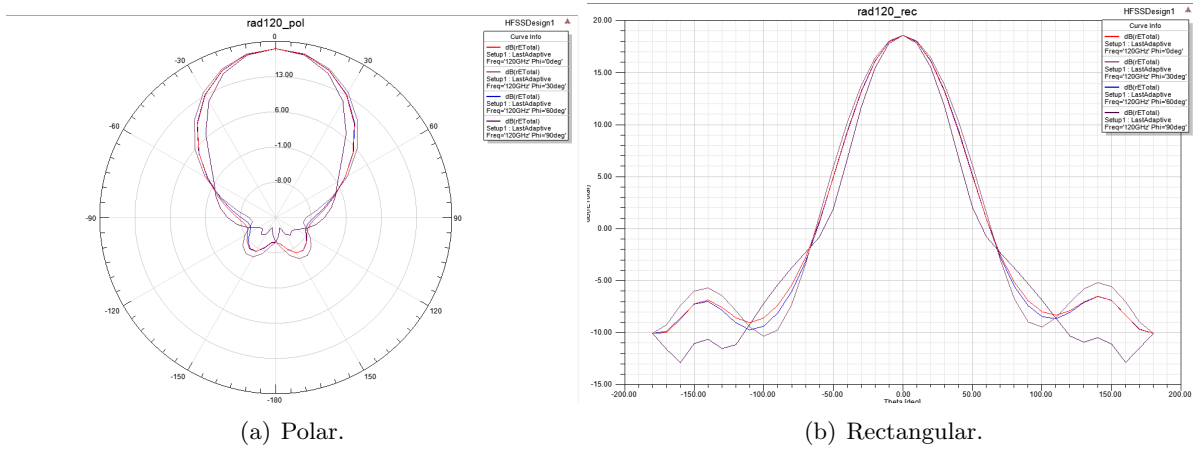

Figure 12: Beam response pattern plots.
- Create Far Fields Report (right-click RESULTS under the Project Manager): radiated fields computed in the far-field, for generating beam response patterns. (Figure 12) To create the response function plot, the design must have a Radiation or PML boundary and an Infinite Sphere geometry